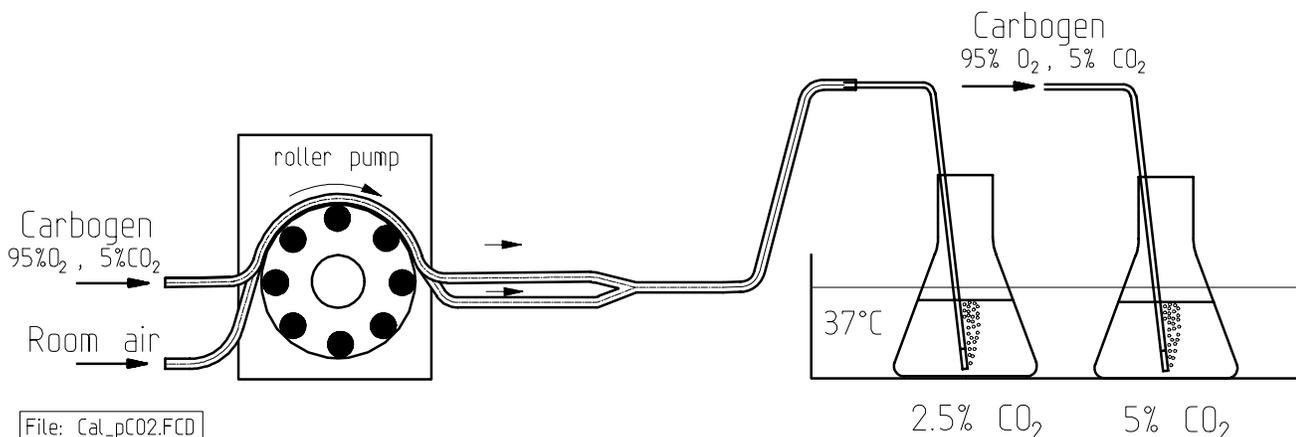

Fig. 3: Calibration setup for pCO₂ electrodes
- (1) Connect the pCO₂ electrode to the EMM module. Switch "**NONINV.(ANION) / INVERTING (CATION)**" in position **NONINV.(ANION)** (pCO₂ electrode has a characteristic with positiv slope, so inverting is not necessary).
- (2) Place a little perfusion solution into two small conical flasks (50 ml). Pass Carbogen (95% O₂, 5% CO₂) through one of the flasks, and a mixture of carbogen and room air through the other (use frits). This operation is best performed using a multi-channel roller pump. One channel pumps Carbogen, the second one room air. The mixture of room air with 0.03% CO₂ and Carbogen with 5% CO₂ produces a content of approx. 2.5% CO₂. See also Fig. 3.